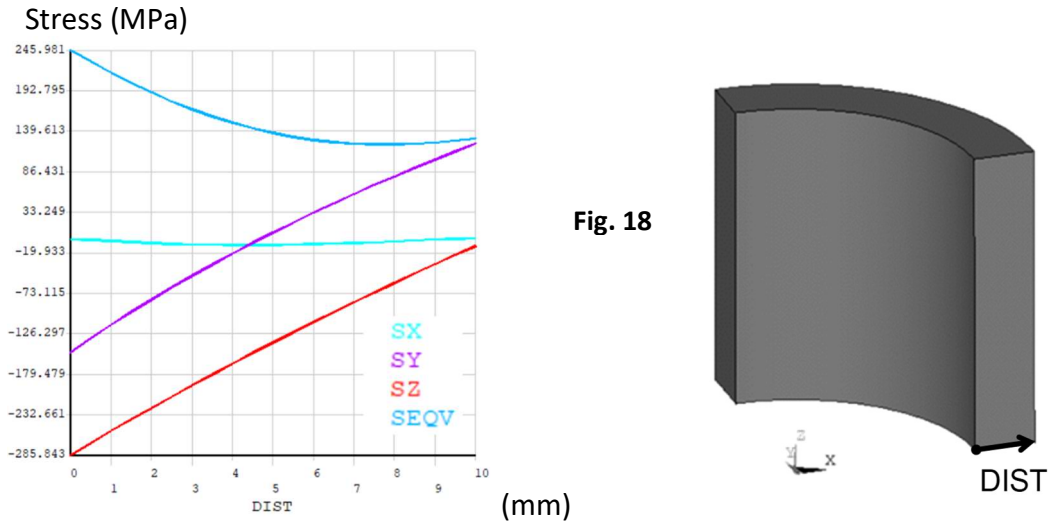

Fig. 18
24. Plot a graph of stress components as a function of the distance measured along the radial coordinate and save it as an image (Fig. 18).